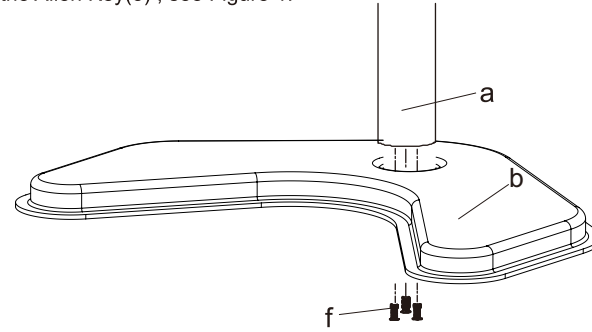

Figure 1
1. Install the "b"-Clamp Brace(b) to the Pole(a) using 3pcs M5x16 Bolts(f), and tighten using the Allen Key(o), see Figure 1.